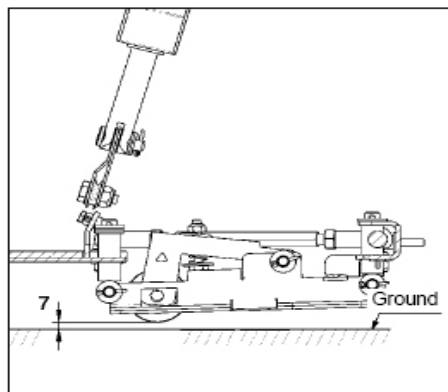

**Figure 18 - Squeegee Parallel Adjustment**
- Pre-adjust to (151mm) approximately 6.0" by bar (Figure 18/A)
- Fine adjustment with bar (Figure 18/A), make sure that squeegee blades rest evenly and vertically on the floor.